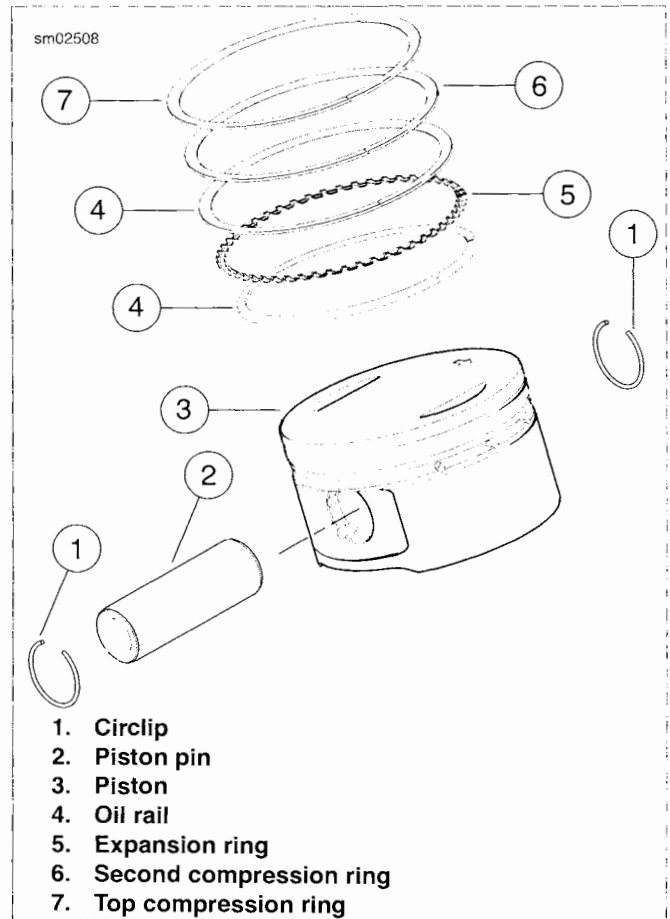

Figure 3-117. Piston Assembly
1. See Figure 3-117. Carefully remove top (7) and second (6) compression rings using the proper piston ring expander (Snap-on PRS8).
2. Using your fingers, remove top and bottom oil rails (4) from the third ring groove. Remove the oil rail expansion ring (5).